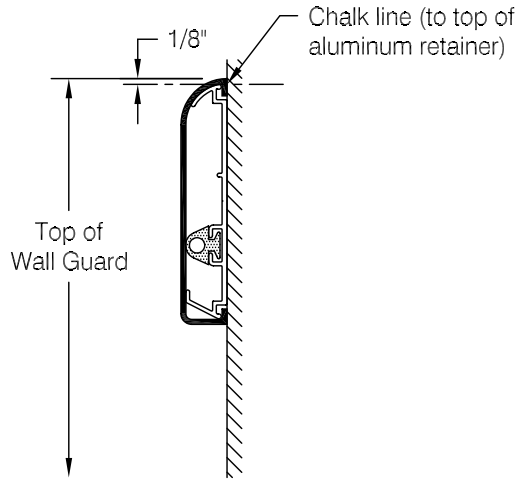

fig 1
- Step 1:** Determine top of wall guard and snap a chalk line 1/8" below to locate top of aluminum retainer, see fig 1 .